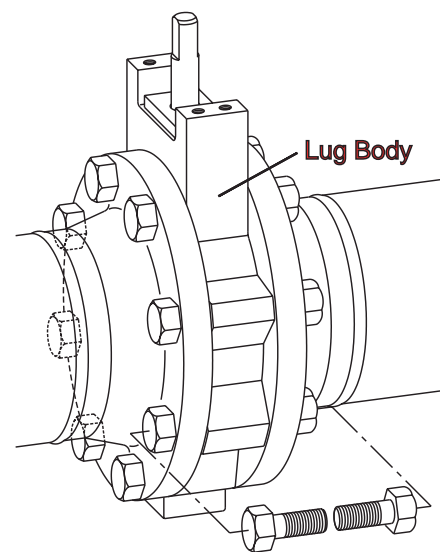

Figure 12
3. Lug body valves should be positioned between the flanges with gaskets properly centered, and then the cap-screws inserted (Figure 12).